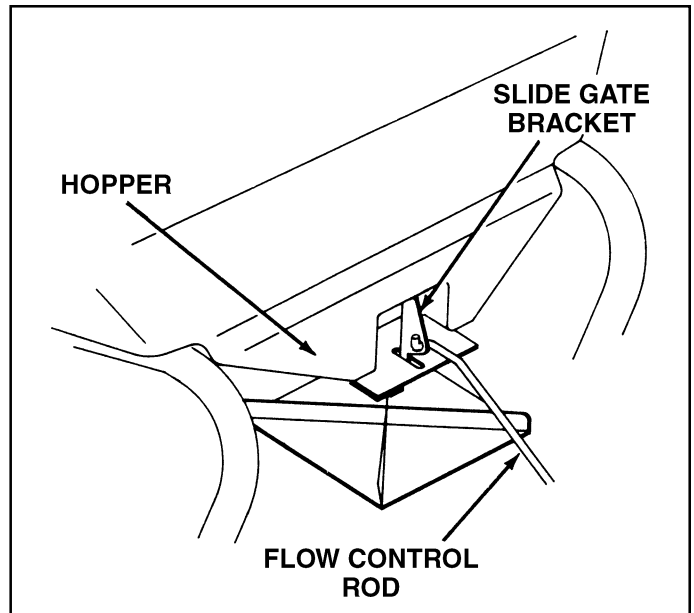

FIGURE 9
17. Hook the free end of the flow control rod through the hole in the slide gate bracket located near the bottom of the hopper. See figure 9.